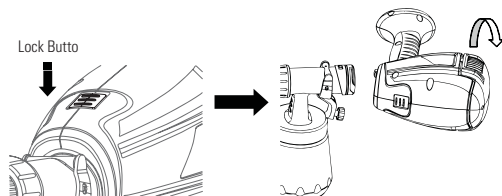

FIGURE 9.4
- Connect the front to the back part of the spray (see Figure 9.4) for the model AIR PLUS SPRAY SCHULZ Compact;